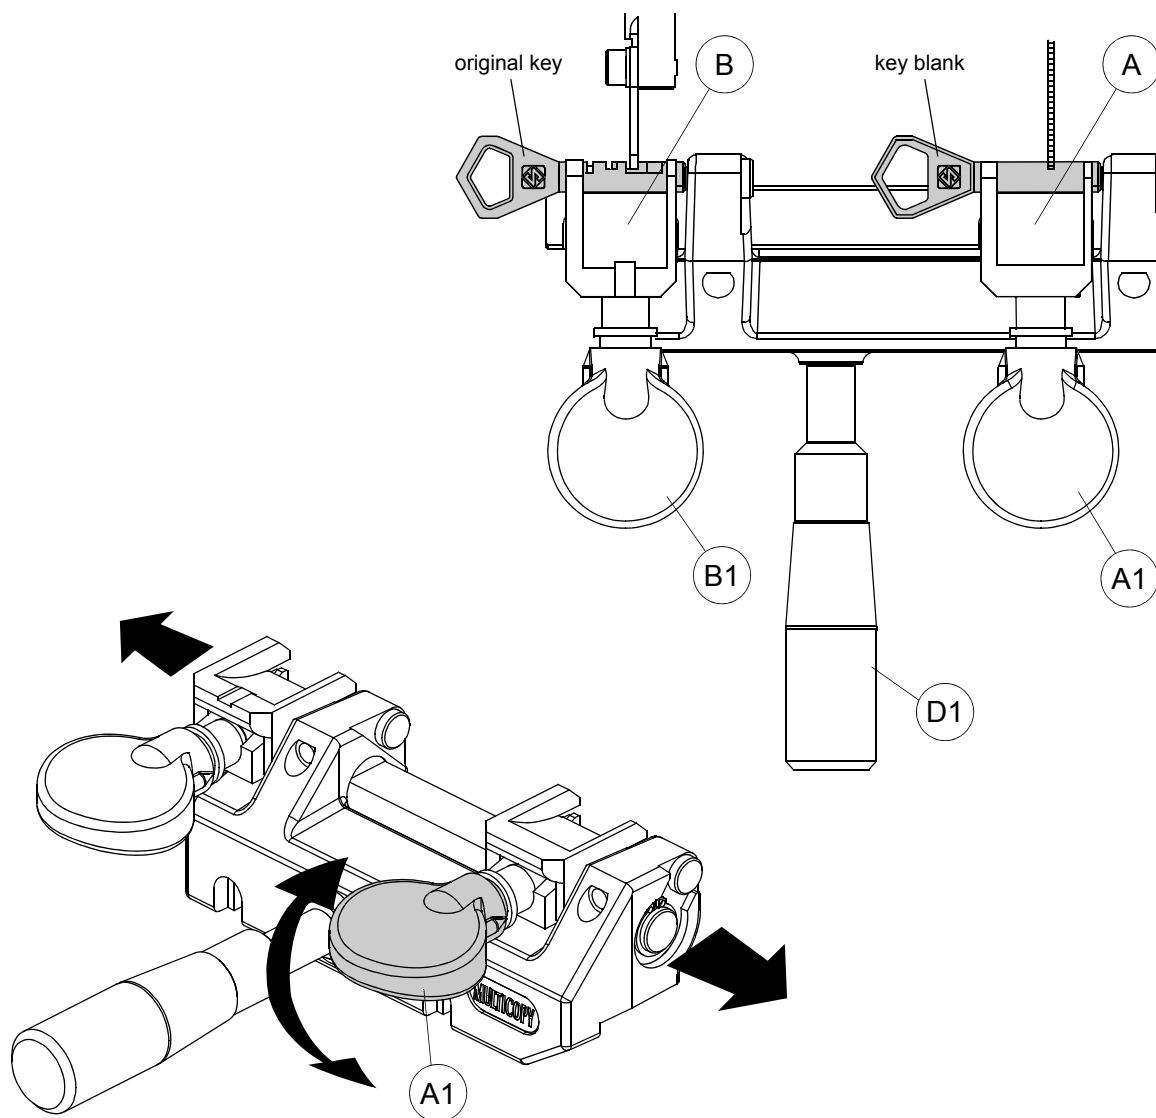

Fig. 14
- 1) Fit the original key into the left-hand jaw (B) and secure in the way described above;
- 2) fit the key blank into the right-hand jaw (A) and secure in the way described above;
- 3) activate the machine by means of start button (F);
- 7) repeat the operation for each cut, if necessary adding a slight horizontal movement (fig. 14);
- 10) re-activate the machine with switch (F) and eliminate burrs with the brush (K).